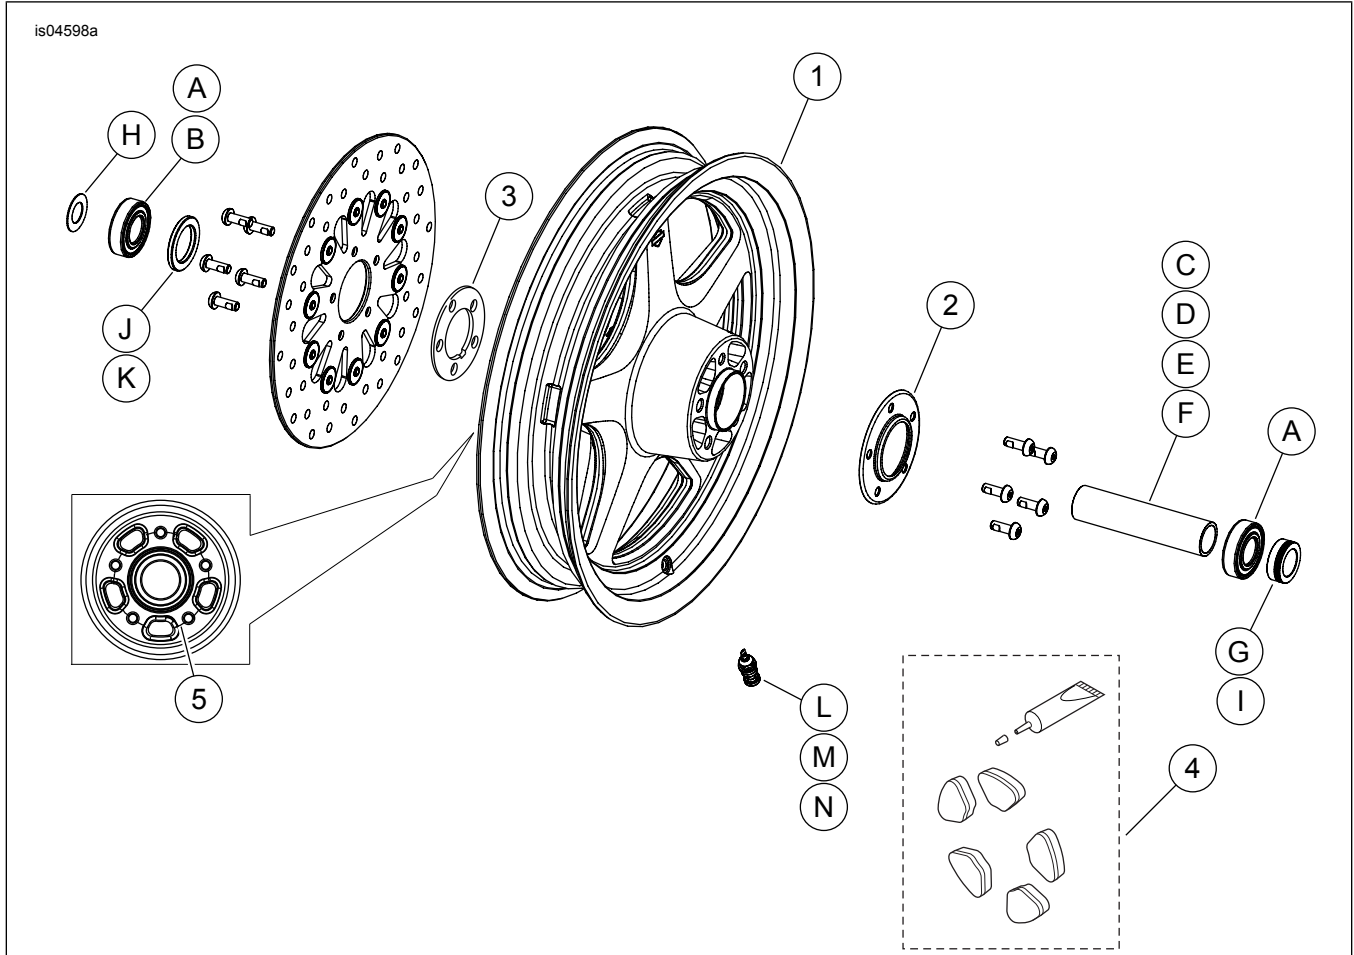

Figure 2. Service Parts: FRONT THUNDERSTAR WHEEL KITS (16-inch wheel shown)
These kits include the custom wheel, and depending on the kit, may also include a hub cap and hub plate. See Figure 2. and Table 3 for kit contents.
2. See Figure 2. Install valve stem assembly (L, M or N) on wheel. Refer to TIRES in service manual.
- The left side of the wheel has a machined groove (item 5, See Figure 2.) in the hub face and/or DOT markings to identify it as the brake disc and primary bearing side.
- Install the wheel so that the hub markings are on the left side of the motorcycle. The left side of the wheel has a machined groove (item 5, See Figure 2.) in the hub face and hub markings to identify it as the primary bearing side.
- These kits include one or two hub plates (43985-00) to install between the brake disc and the wheel and a chrome hub cap (43986-00) to install on the wheel opposite the brake disc side. Hub covers must be installed to prevent water intrusion, which could cause an imbalance condition. **Dual brake disc models:** Install one stainless steel hub plate (3) between each brake disc and wheel hub. Discard chrome hub cap (2). Install brake discs according to service manual procedures. **Single brake disc models:** Install one stainless steel hub plate (3) between the brake disc and wheel hub. Install the brake disc according to service manual procedures. Install the chrome hub cap (2) on the side opposite the brake disc. Discard extra stainless steel hub plate (3).
- The wheel has a machined groove (item 5, See Figure 2.) in the hub face to identify the right side.
- These kits include one or two hub plates (43985-00) to install between the brake disc and the wheel and a chrome hub cap (43986-00) to install on the wheel opposite the brake-disc side. Hub covers must be installed to prevent water intrusion, which could cause an imbalance condition. **Dual brake disc models:** Install one stainless steel hub plate (3) between each brake disc and wheel hub. Discard chrome hub cap (2). Install brake discs according to service manual procedures. **Single brake disc models:** Install one stainless steel hub plate (3) between the brake disc and wheel hub. Install the brake disc according to service manual procedures. Install the chrome hub cap (2) on the side opposite the brake disc. Discard extra stainless steel hub plate (3).
6. Install front wheel (1), stock axle and stock axle nut. Refer to FRONT WHEEL in service manual.